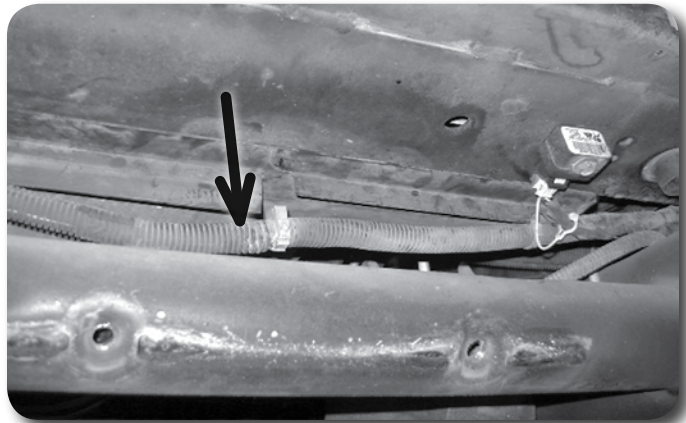

Figure 17A
33. Working from the bottom of the fan shroud, pull the wire loom out away from the fan shroud. **Figure 17A** Locate the provided lower fan shroud brackets (2) and position them as shown. **Figure 17B** The lower horizontal shroud lip should rest just below the core support and the shroud pulled tight forward. Use the brackets to mark the position of the holes to be drilled.